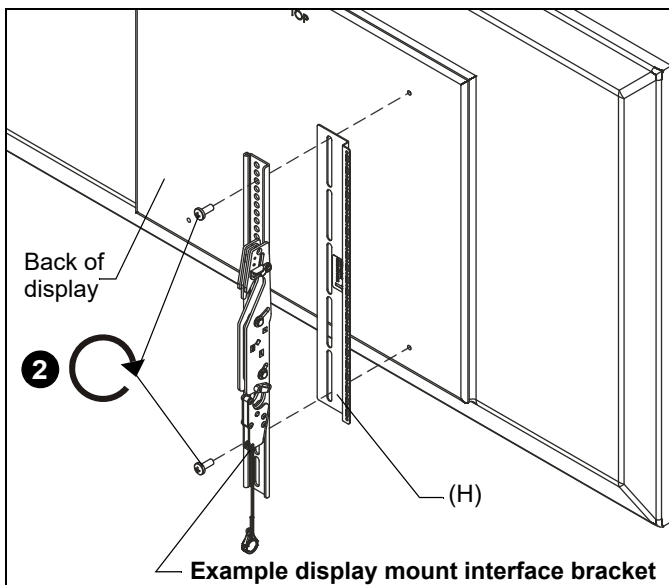

Figure 2
**NOTE:** Any existing display mount interface bracket hardware that is already installed on the back of the display must be removed before installing the mounting bracket (H).
2. Use the hardware provided with your display mount interface brackets to attach mounting bracket (H) between the display mount interface bracket and into the VESA holes in the back of the display. (See Figure 2)